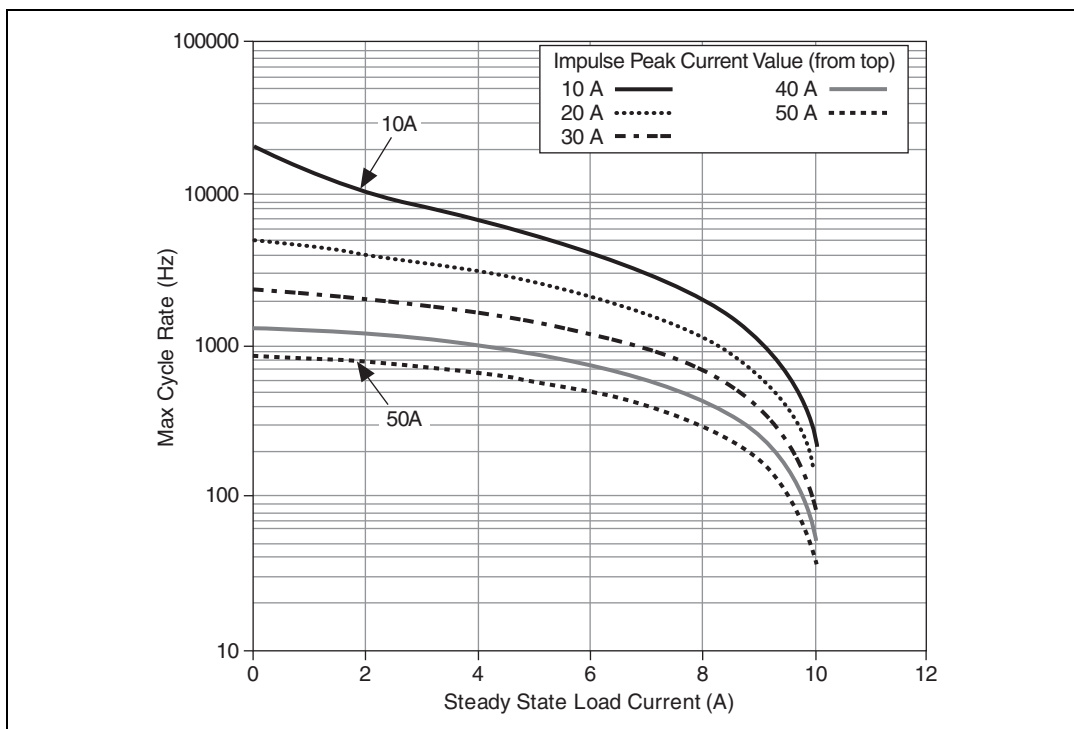
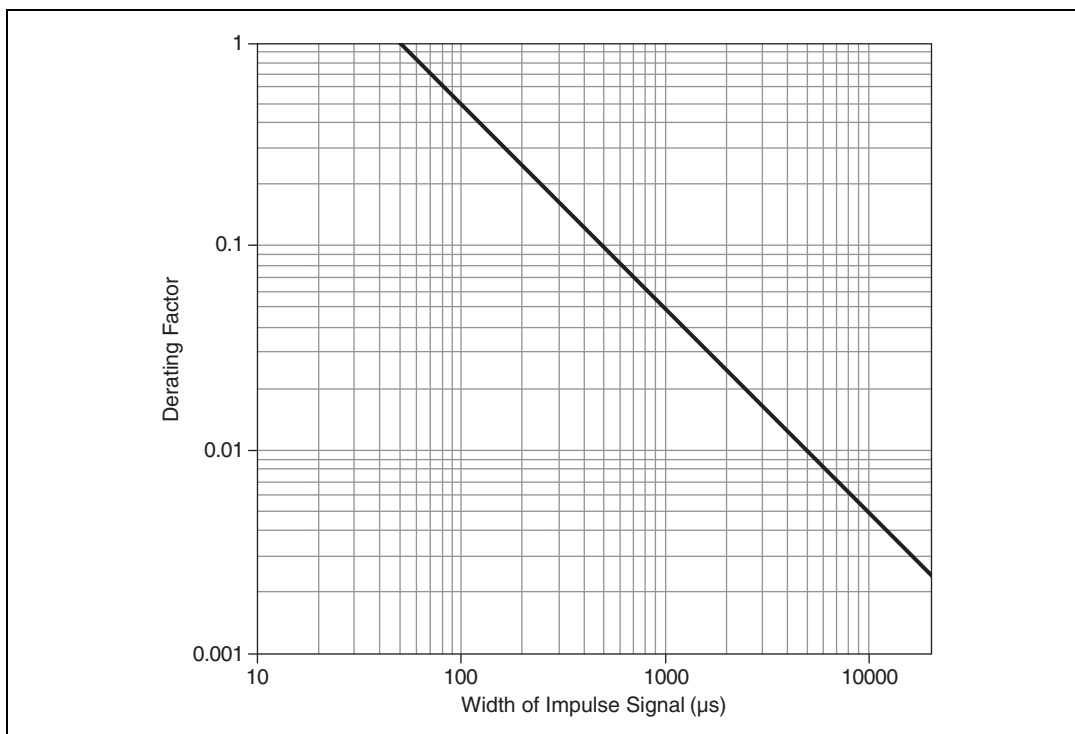

Figure 2. Maximum Cycle Rate
Figure 3. Maximum Cycle Rate Derating Factor by Pulse Width
Note Overttemperature conditions are created when excessive power is dissipated in the channel paths such as when switching large impulses created by switching into capacitive or inductive loads or when switching a signal at a higher rate than the module dissipates the generated heat. Refer to Figures 2 and 3 for information about the maximum cycle rate.
Complete the following steps and use Figures 2 and 3 to determine the maximum cycle rate at which a channel can be switched when the peak impulse current value and duration are known.
1. Using Figure 2, choose the graph line that meets or exceeds the peak inrush current value of the signal being switched. Find the point on the trace that equates to the steady state current being switched by the load.
3. Using Figure 3, find the point on the graph that corresponds to the measured pulse width of the inrush current pulse. Find the corresponding derating factor. Then calculate the maximum cycle rate using the following equation:
For switching a steady state current of 4 A into a load with peak inrush current of 45 A that lasts for 400 μs, choose the 50 A graph line in Figure 2. Find the y-axis value that corresponds to the 4 A load current (650 Hz). Then find the derating factor in Figure 3 that corresponds to 400 μs (0.1).